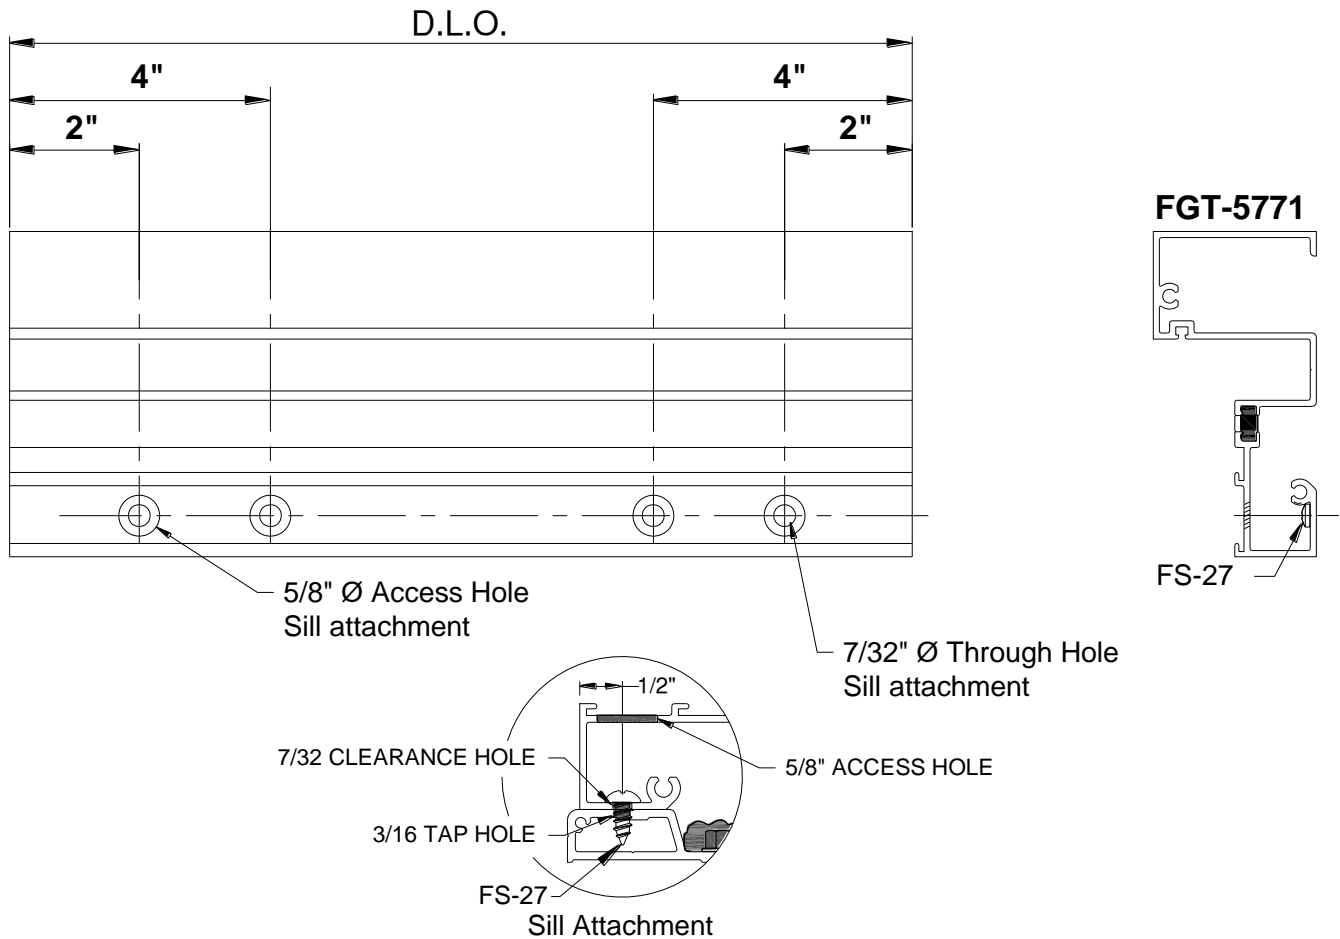

Figure 4: Sill Fabrication
- 4.1 Prepare Sill for **FS-27** installation by placing access and pilot holes 1/2" from face of metal, referencing *Figure 4* for hole location. Holes should be placed at 2" and 4" from the ends of Sill to accommodate two fasteners on each side. After frames are installed the **FGT-5712** or **FGT-5726** subsill will be match drilled using a 3/16" drill bit.